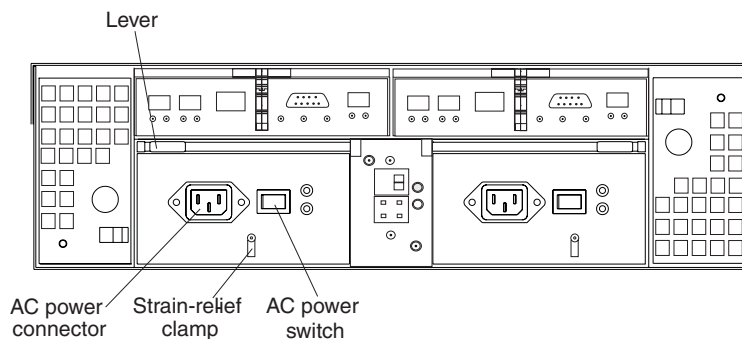

Figure 66. Connecting the power cord to the AC power connector
5. Connect the power cord to the AC power connector. See Figure 66 on page 88.